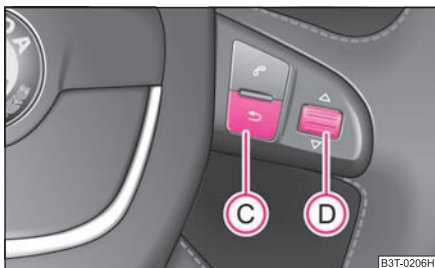

Fig. 13 Information display: Controls on the multifunction steering wheel
- You can activate the **MAIN MENU** by pressing the rocker switch **(C)** ⇒ fig. 13 for more than 1 second.